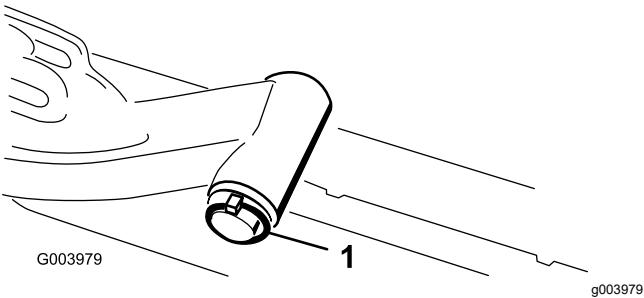

Figure 11
- Remove the lynch pin and washer securing the lift-arm pivot shaft to the lift arm and slide the lift-arm pivot shaft out of the lift arm (Figure 11).
- Insert the lift-arm shaft into the lift arm and secure it with the washer and lynch pin (Figure 11).